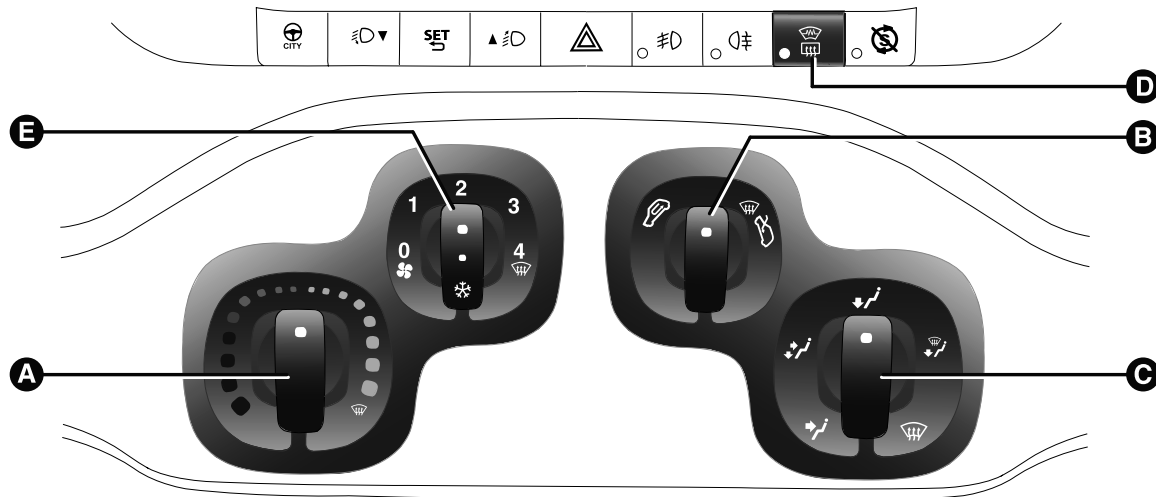

fig. 29
A Air temperature knob (red=hot/blue=cold)fig. 29
B Air recirculation knob fig. 29
C Air distribution knob fig. 29
D Heated rear window, folding mirror/heated windscreen (for versions/markets, where available) activation/deactivation button fig. 29.
E Fan speed and climate control system activation/deactivation knob fig. 29 (for versions/markets, where provided). Press the knob to activate the climate control system; the LED on the knob switches on. This enables rapid cooling of the passenger compartment. .
- ☐ turn knob A fig. 29 to the right to increase the temperature;
- ☐ turn knob A fig. 29 to the red section;